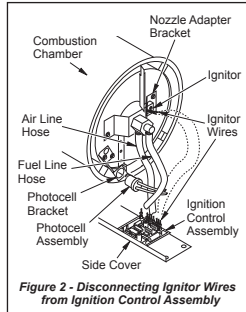

Figure 2 - Disconnecting Ignitor Wires from Ignition Control Assembly
- 2. Carefully disconnect the two ignitor wires from ignition control circuit board assembly.** These wires may currently be yellow, orange, grey or purple on your unit, but they will all be replaced by the new ignitor using the 2 yellow wires. It does not matter which yellow ignitor wire goes to the 2 ignitor labeled spades on the ignition control circuit board assembly. (see Figure 2).
- 4. Carefully disconnect rear fuel supply line hose and front air supply line hose from the nozzle adapter.** Use caution when removing these lines on units with a plastic adapter, too much force will cause the plastic hose barbs on the nozzle adapter to crack off. The air supply line coming from the motor air pump goes to the rear hose barb connection on the nozzle adapter connection. The fuel supply line coming from the tank goes to the front hose barb on the nozzle adapter connection. Remove photocell from photocell bracket (see Figure 2).
10. **Route yellow ignitor wires back down through hole in lower shell and back to the ignition control circuit board assembly.** Carefully connect the two yellow wires to ignition control circuit board assembly. It does not matter which yellow ignitor wire goes to the 2 ignitor labeled spades on the ignition control circuit board assembly. (see Figure 2).
12. **Route and connect fuel supply line hose and air supply line hose** to nozzle adaptor hose barbs on the combustion chamber burner head. (see Figure 2).
13. **Replace photocell in photocell bracket, wires are to be routed as shown in Figure 2.**